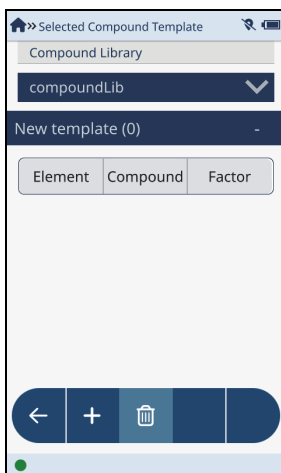

Figure 2-90 Adding new template
3. Tap the **Add** button () to add a new template (see Figure 2-90 on page 102).